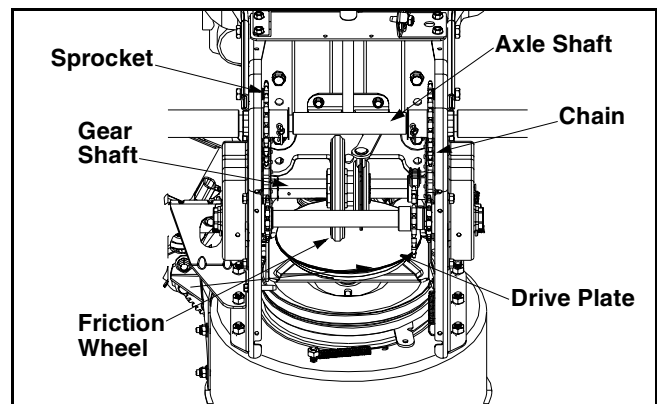

Figure 9
- With the traction control engaged, the friction wheel must contact the drive plate. See Figure 9.
Lubricate the gear shaft with 6-n-1 grease at least once a season or after every 25 hours of operation (available at automotive stores, or order part number 737-0170). Refer to Figure 9.
chains, sprockets, gears, bearings, shafts, and shifting mechanism at least once a season. Use engine oil or a spray lubricant. **Avoid getting oil on the friction wheel rubber and aluminum drive plate.** Refer to Figure 9.